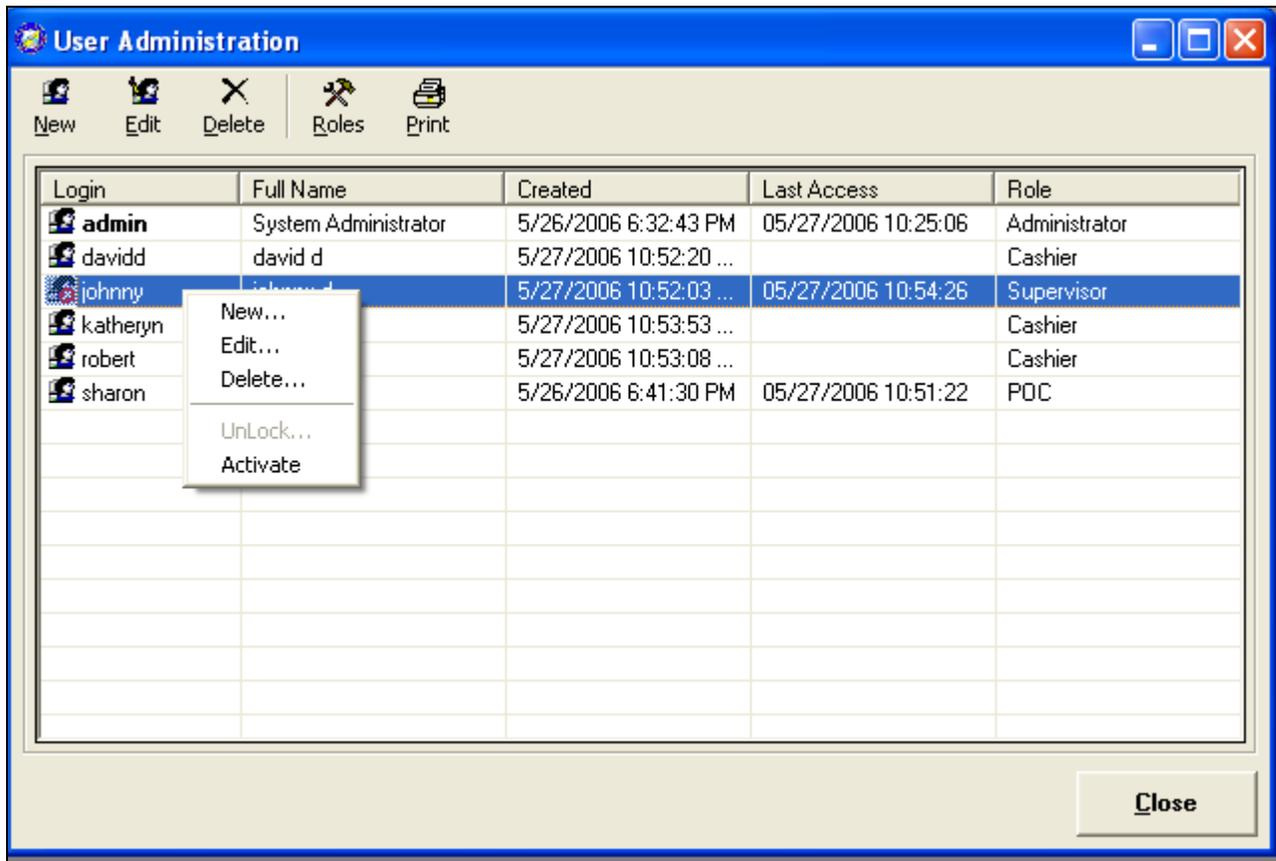

Figure 3.22
3. Right click the row of the Login to activate. A drop down menu appears with choices, as displayed in Figure 3.22.